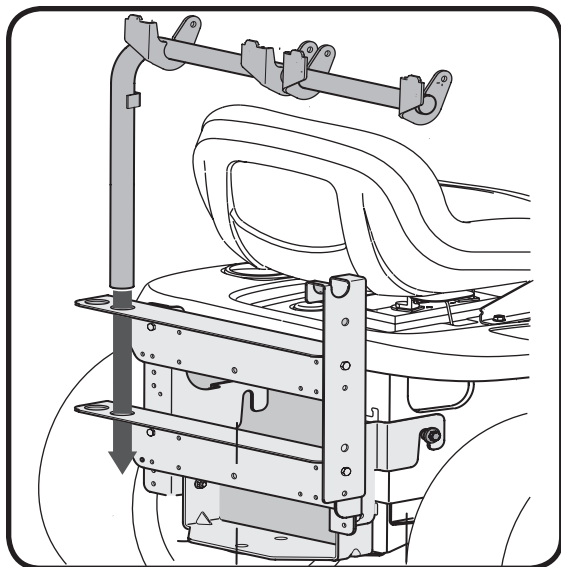

Figure 17
1. Place the support tube in position on the rear of unit by sliding the support tube down through the holes in the left side of the bracket assembly. Use the inside hole on the bracket assembly regardless of what size deck your tractor is equipped with. Refer to Figure 17.